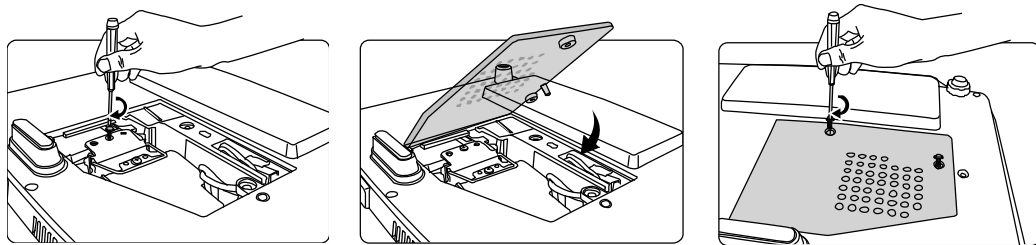

Figure 6. Reinstalling Lamp Cover.
9. Using a flat-tipped screwdriver, tighten screw that secures the lamp as shown in first illustration or Figure 6.
11. Replace the lamp cover on the projector as shown in the middle illustration of Figure 6.
12. Using a flat-tipped screwdriver, tighten two screws that secure the lamp cover as shown in Figure 6. Do not over-tighten the screws.